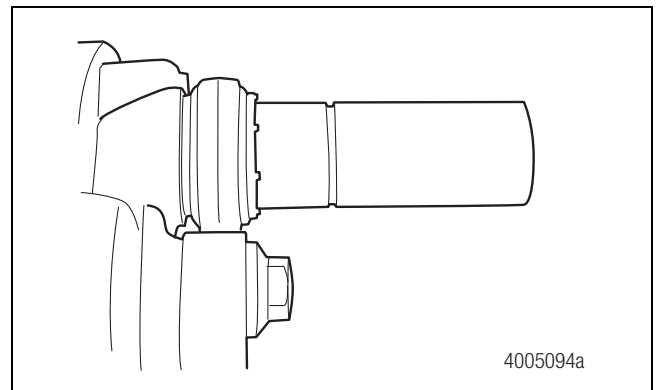
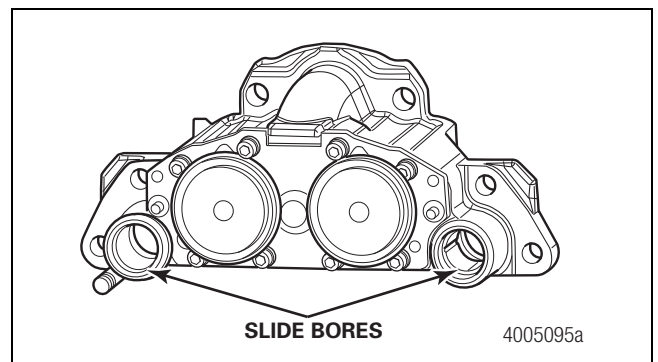

Figure 5.49
Figure 5.50
1. Apply grease to the slide pins and slide bores in the housing assembly. Figure 5.49 and Figure 5.50.